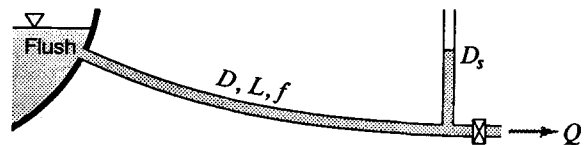

Figure X12.7.1
- 12.7.1 A 48-in-diameter steel pipe ( $f = 0.020$ , flush inlet) 4000 ft long delivers 275 cfs of water to a power plant. It is protected from water hammer by a 7-ft-diameter surge tank located at the downstream end just before the control valve (Fig. X12.7.1). Without using trial and error, obtain a safe, preliminary estimate of the largest height (above the reservoir surface elevation) to which a surge would rise. Neglect all velocity heads and minor losses; in the surge tank (only) neglect fluid friction and inertial effects.